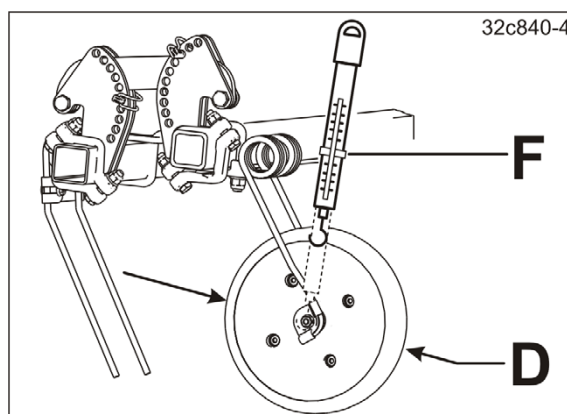

Fig. 144
6. Check the roller contact pressure, e.g. with a spring balance (see Fig. 144).